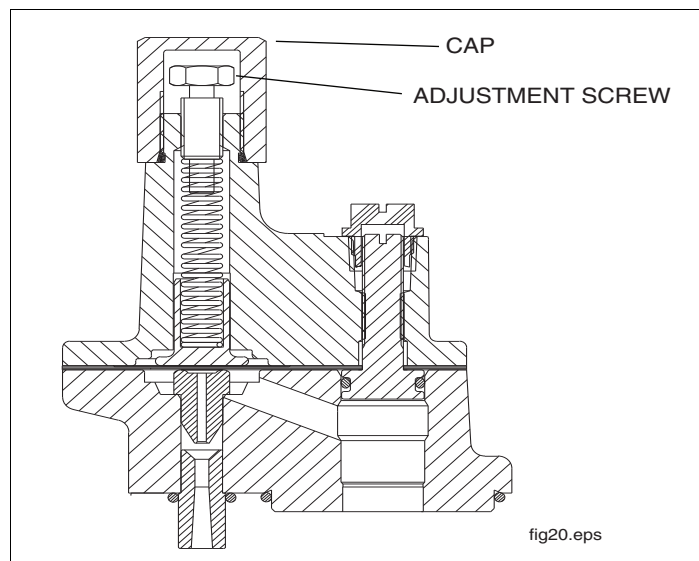

Figure 24. Functional element cap and adjustment screw
1. Remove the cap (see Figure 24).
2. Turn down the adjustment screw (see Figure 24). Tightening the screw clockwise will increase the pressure. When the adjusting screw is fully down, the relief pressure is approximately 30 psi (207 kPa). Fully up will result in relief pressures between 0 - 3 psi (0 - 20 kPa).
4. To relieve the pressure, back out Functional Element screw (see Figure 24 on page 27), or remove the two lock-down bolts and rock the pump to allow excess pressure to flow into the tank.